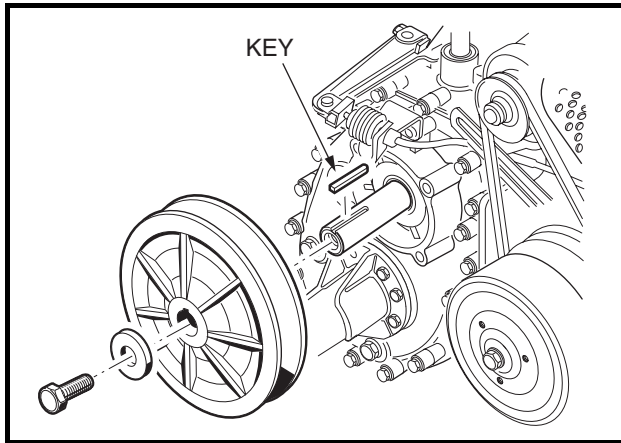

Figure 18-38 Driven Clutch
9. Install the key onto the input shaft (**Figure 18-38, Page 18-15**).
10. Position the driven clutch on the transaxle input shaft and install the washer (yellow side facing out) and mounting bolt. Tighten the mounting bolt to 14 ft-lb (19.0 N·m) (**Figure 18-38, Page 18-15**).